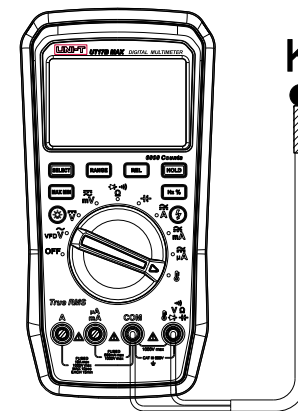

Figure 8
8. Temperature Measurement (UT17B MAX & UT18B MAX) (Figure 8)